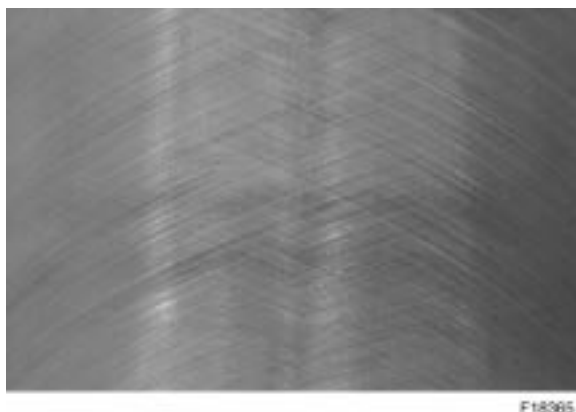

Figure 4-12. Honing Cross-Hatch Pattern
9. If the liner is not scuffed, merely break the glazed surface by stroking at a rate of approximately 30 complete cycles per minute to produce the cross-hatched pattern shown in Figure 4-12. on page 4-13.
10. If the liner is scuffed, remove material build-up, or scuffing. Do not attempt to remove any isolated dirt scratches as they do not significantly affect operation. Honing out these scratches needlessly reduces liner life. After the surface has been “cleaned up,” the hone should be removed and the stones wire-brushed to remove any loading of metal in the stones. The liner should then be honed with the clean stones, using heavy pressure to obtain a good cross-hatched pattern, Figure 4-12. on page 4-13. Do not remove any more metal than is necessary to obtain desired finish.